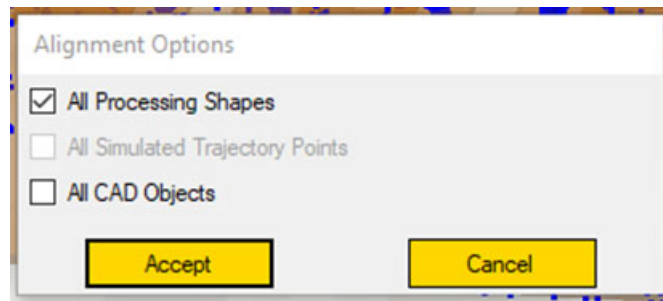

Figure 289: Example Alignment Options
- For this example, only the "All Processing Shapes" box was checked. This will cause all of the weld objects to snap with the STL model. See Figure 289 (below).